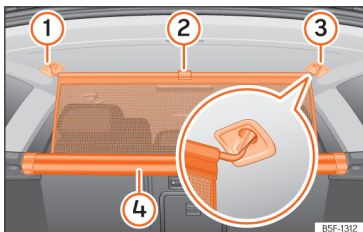

Fig. 184 In the boot: securing the partition net.
- Pull up handle >>> Fig. 184 ② to remove the net from the casing ④.
- Hook in the net partition on the right or left side ③ (magnified image).
- Hook in the net partition into the housing on the other side ① by pulling the rod.